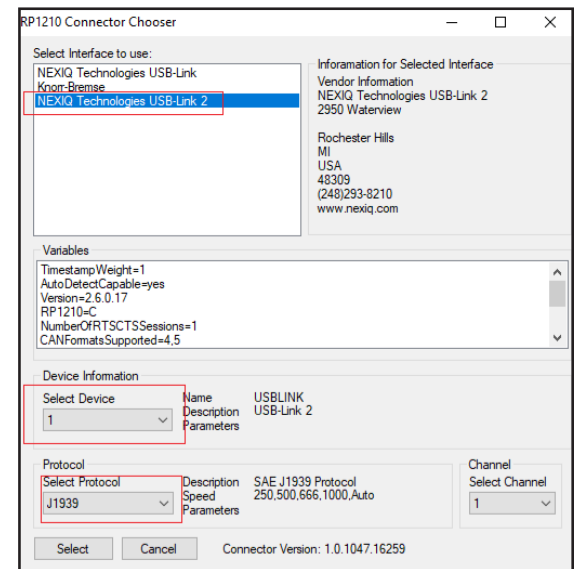

Figure 10 – SmartWave Updater
4. Select the applicable *RP120 adapter*, the *Device*, and *J1939 Protocol* shown in the three highlighted boxes in *Figure 10*.